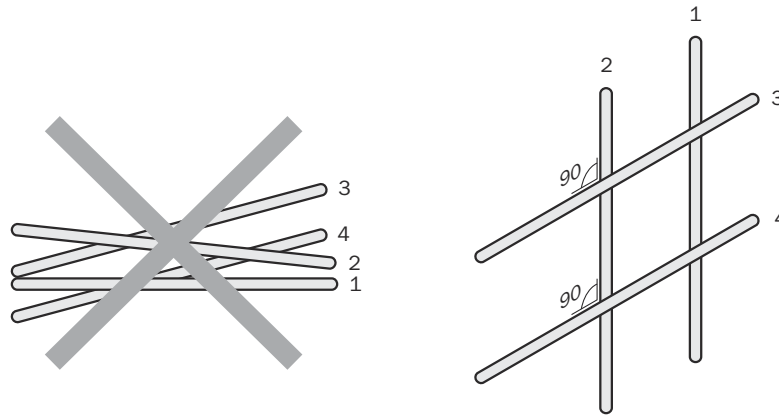

Figure 15: Cross cables at right angles
- ▶ Cables in groups 1, 2 and 3, 4 must be crossed at right angles, see figure 15.